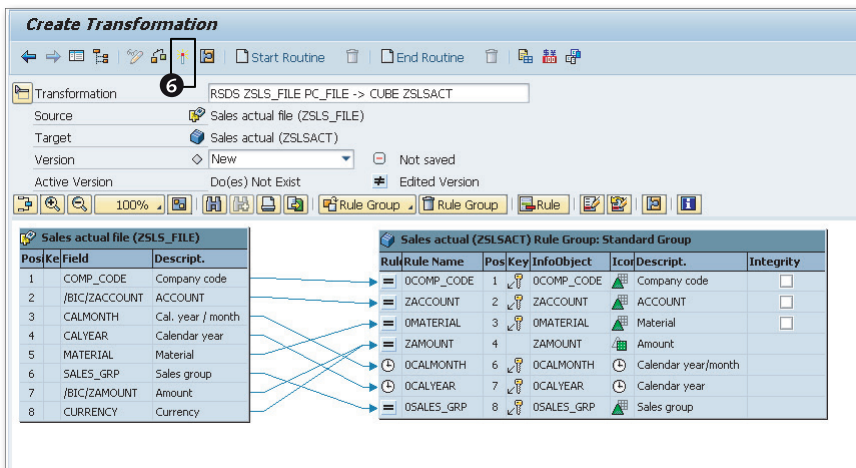

Figure 4.6 Create Transformation—Part B
6. The CREATE TRANSFORMATION window appears (Figure 4.6). The system automatically proposes a mapping for the fields from the DataSource to the InfoObjects in the Sales Actual InfoCube. The proposal is based on the mapping of the InfoObjects in the INFOOBJECT TEMPLATE column of the DataSource to the same InfoObject that exists as a characteristic or key figure in the Sales Actual InfoCube.
7. After you've assigned all of the mappings, click on the **ACTIVATE** button to save and activate the transformation object (Figure 4.6, ⑥).